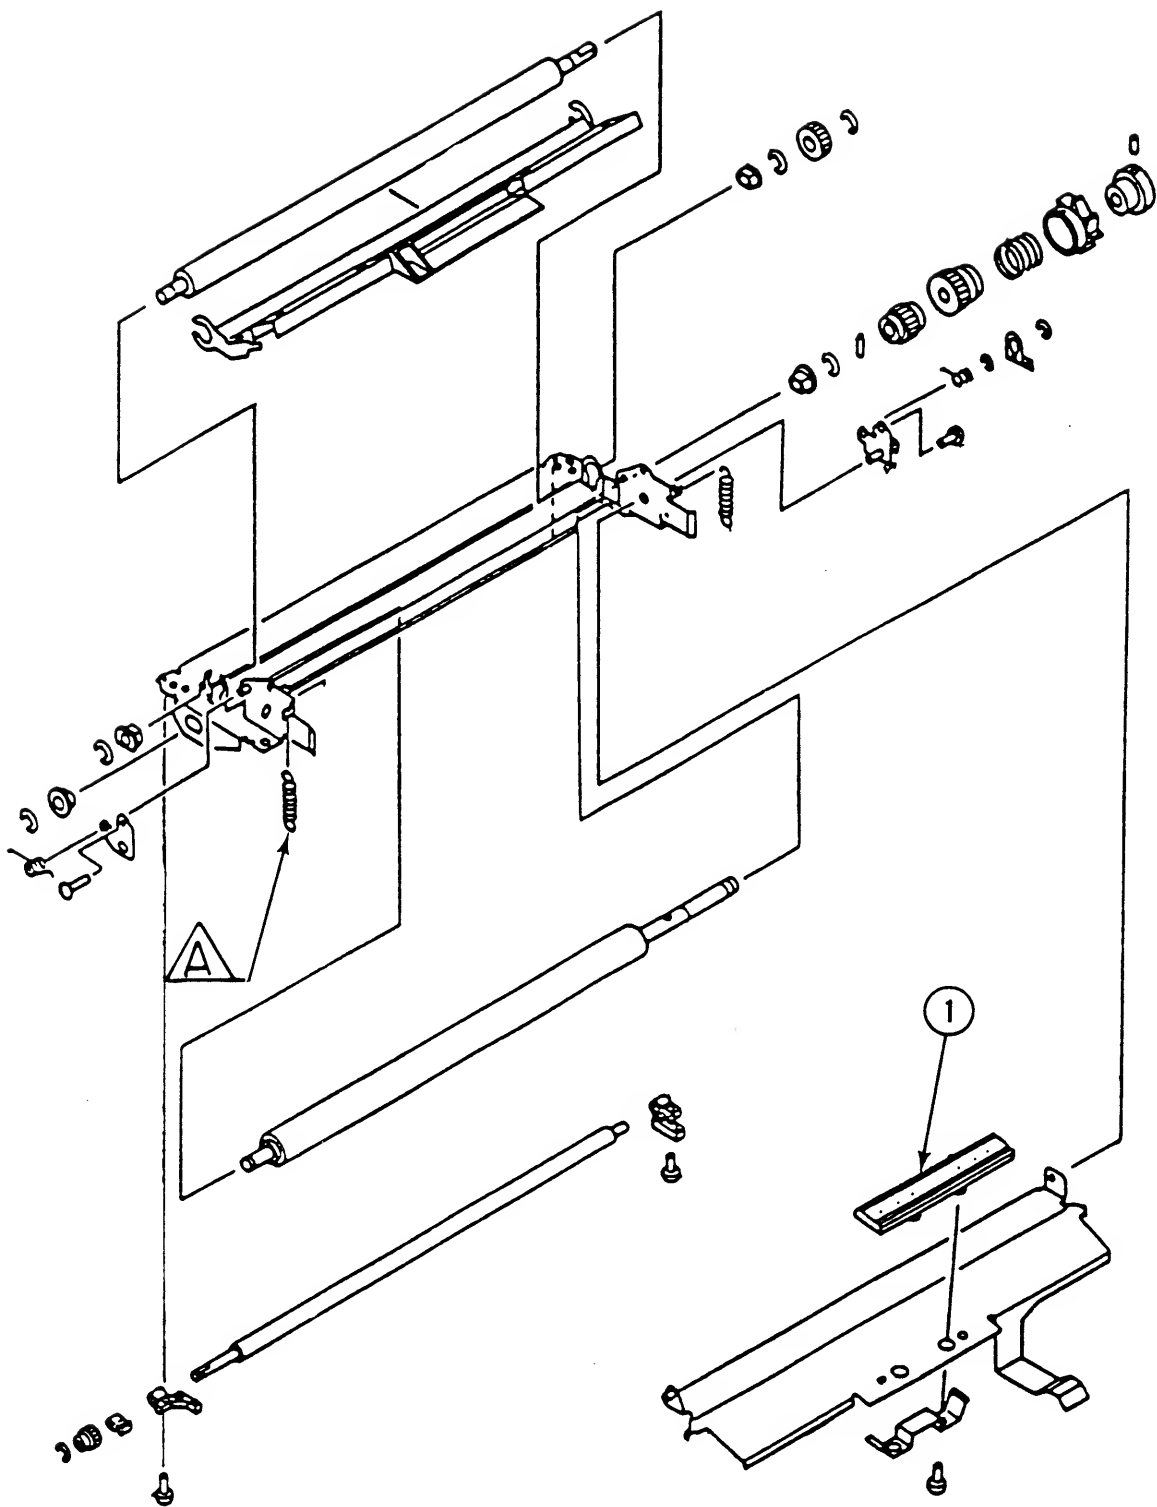

FIGURE 16
□ TRANSFER GUIDE ASSEMBLY (Figure 16)